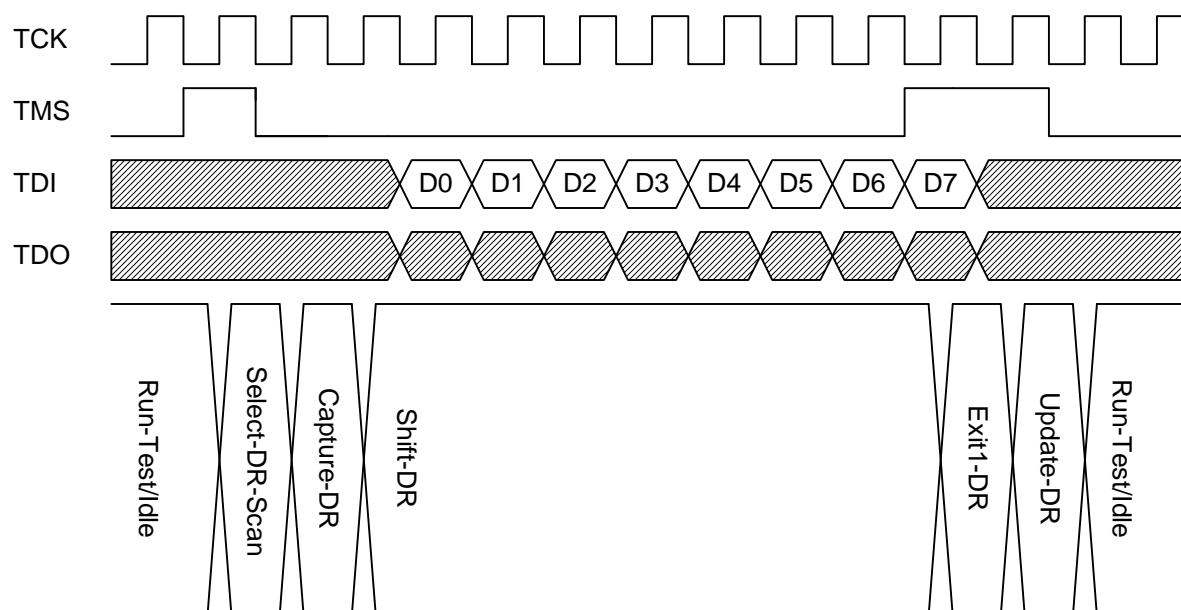

Figure 17. DR Scan Timing for a FLASHDAT Write
Figure 17 shows the DR Scan timing for the 8-bit write to FLASHDAT, step (4) above.